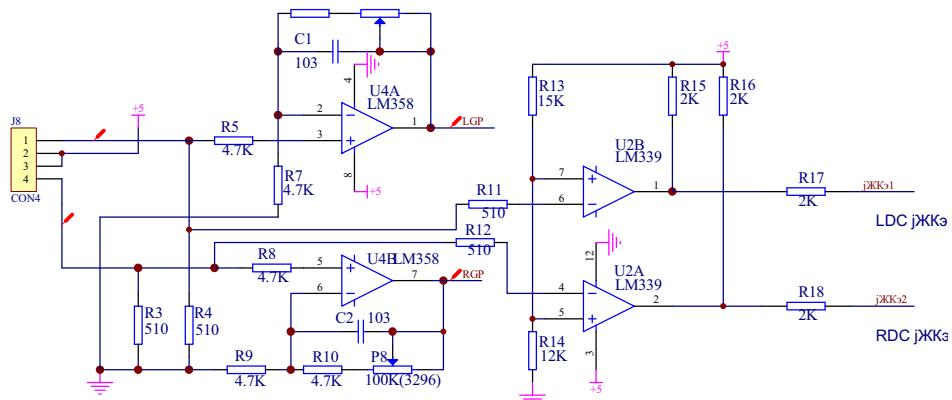

Fig.13B Left and Right Counting Sensor Circuit Diagram
**(2) NEW PRO85, PRO85U (Refer to Fig.13B)**